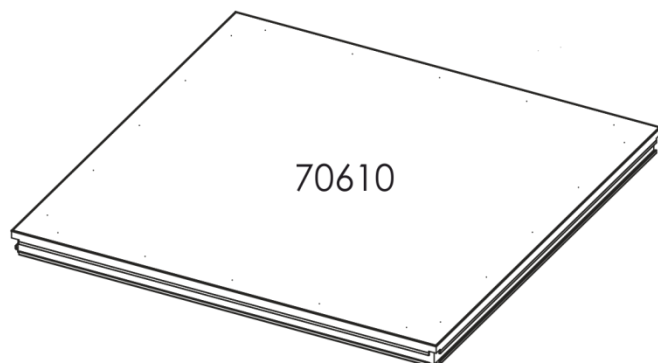
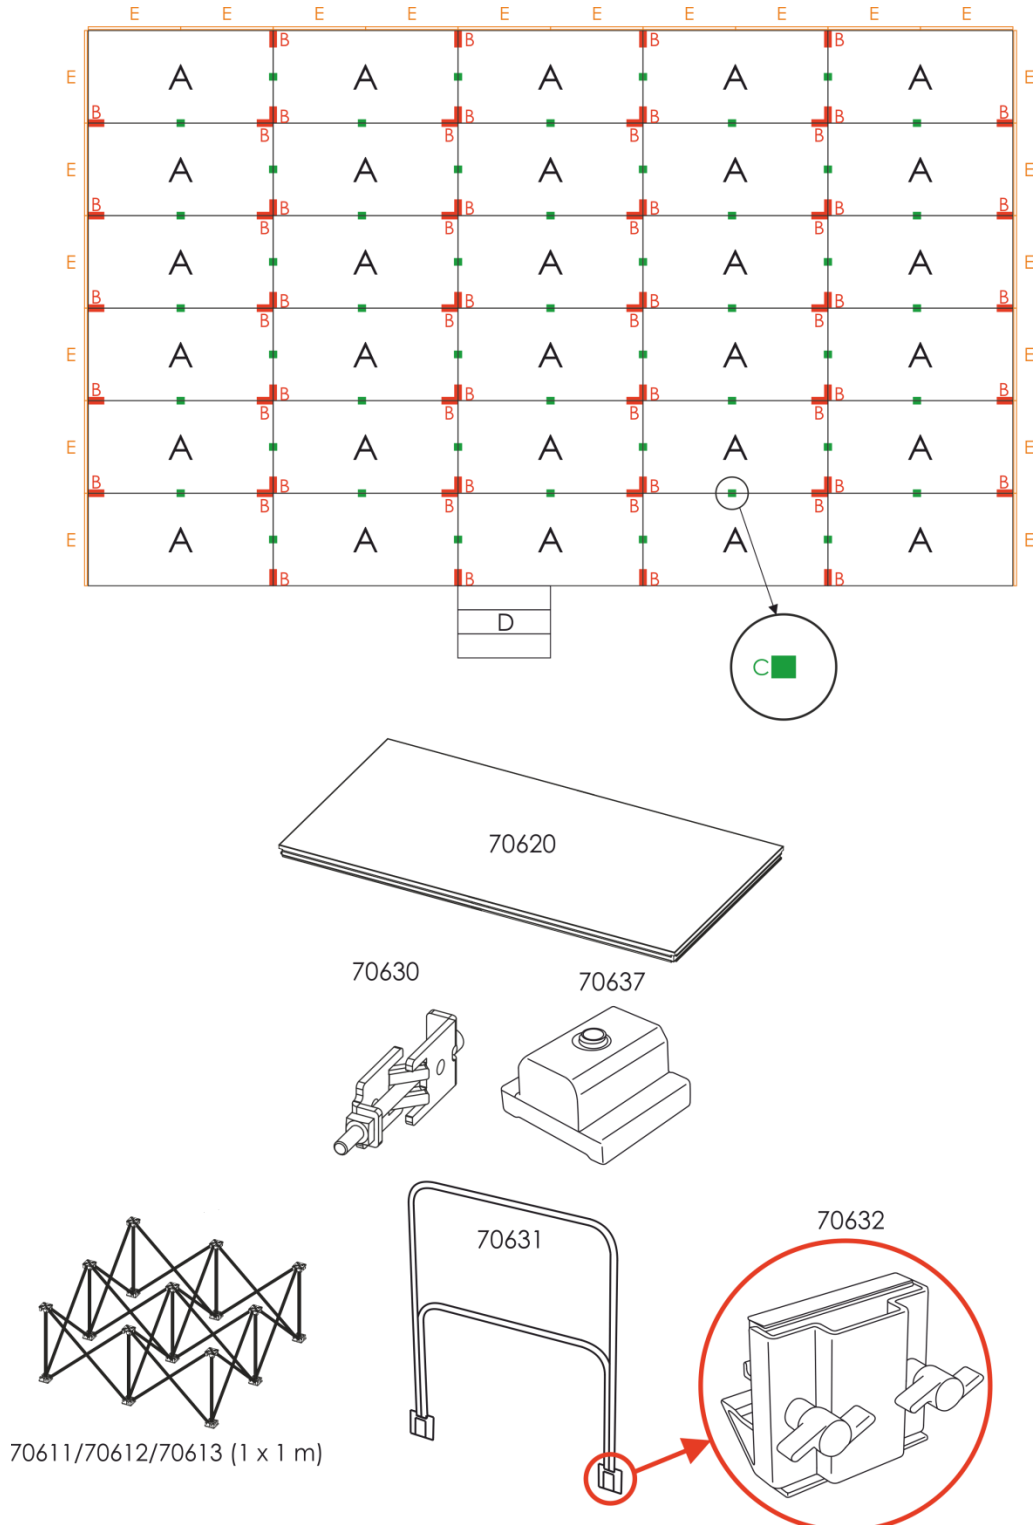

Fig. 07
Fig. 08
- 07) For more details, see fig.07 and fig.08 on pages 10-11.